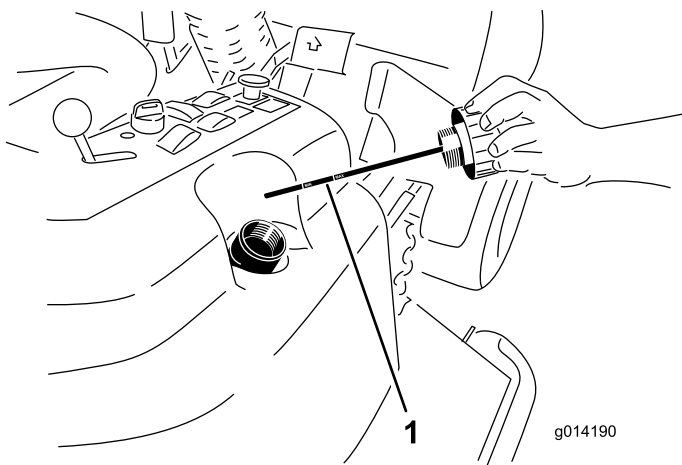

Figure 52
2. Remove the hydraulic fill cap (Figure 52) from filler neck.
3. Remove the dipstick and wipe it with a clean rag (Figure 52).
4. Screw the dipstick all the way into the filler neck; then remove it and check level of fluid (Figure 52).